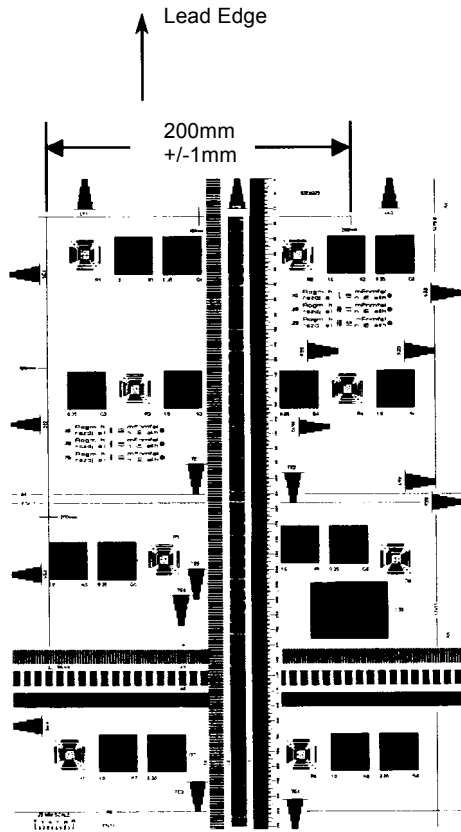

Figure 1 Checking Horizontal Magnification
- Check horizontal magnification (Figure 1):**